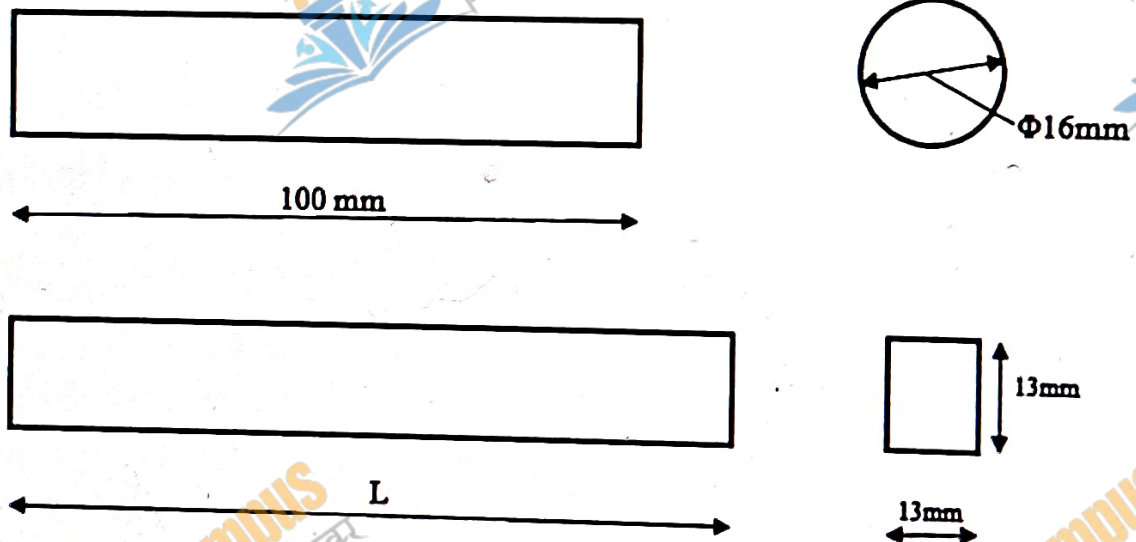

Fig. 1.24 Forging Square Shaped Bar
- The final length of the model to be forged is calculated suitably. Refer figure 1.24